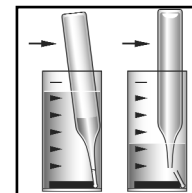

Figure 3
5. Place the Vacu-vial ampoule, tip first, into the sample cup. Snap the tip. The ampoule will fill leaving a bubble for mixing (fig 3).